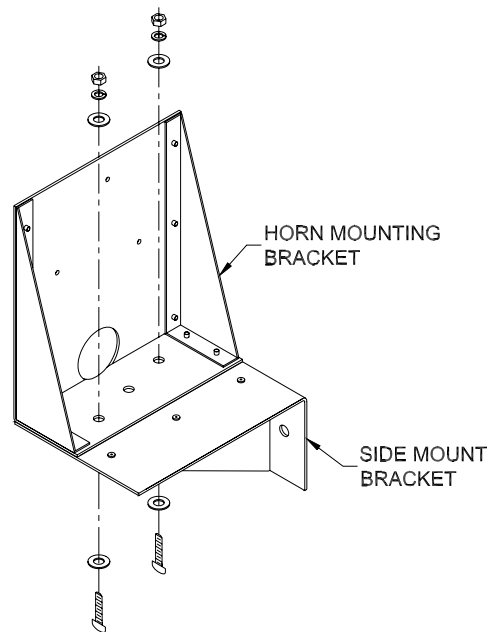

Figure 8 Side Mount Bracket Removal
6. The horn mounting bracket has a side mount bracket attached. If the horn is going to be mounted on top of the scoreboard, remove the side mount bracket as seen in figure 8.